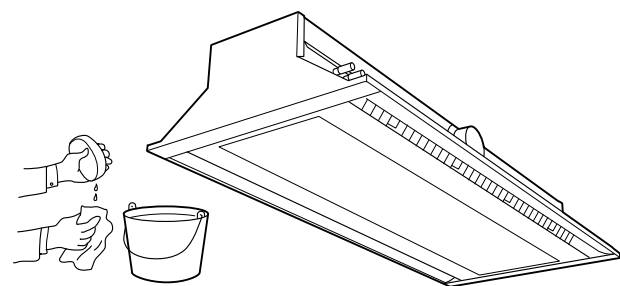

FIGURE 14
- 1) Wipe down exterior of chilled beam with soap and water, as needed. (See **FIGURE 14**)